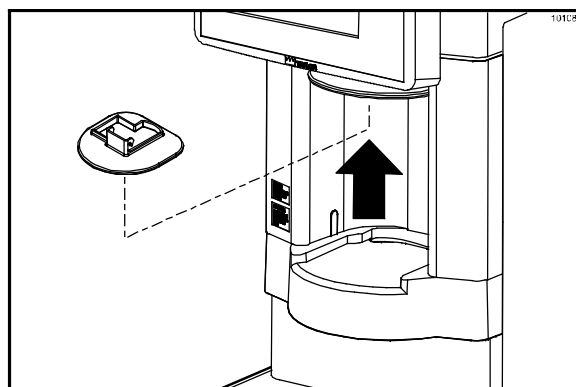

Figure 20
6. Reinstall the splash guard. (See Figure 20.)